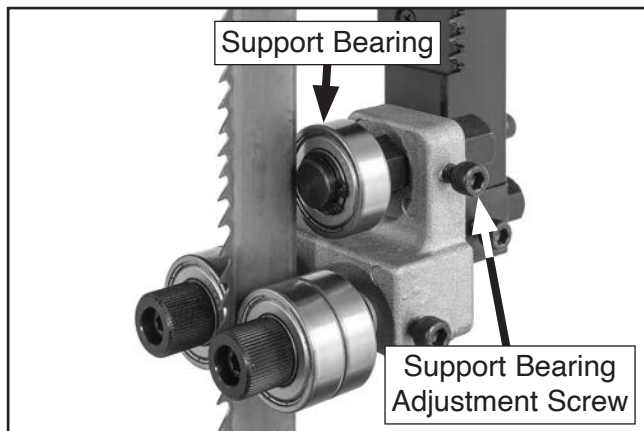

Figure 46. Upper support bearing assembly and controls (guide post cover removed for clarity).
2. Loosen support bearing adjustment screw (see **Figure 46**).